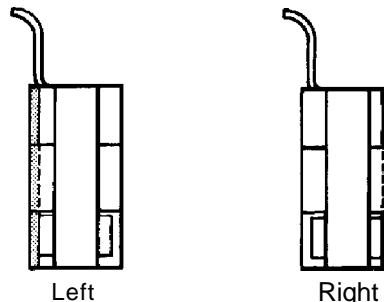

Fig 2b
10.52 If a left hand handle is required it will be necessary to reverse the drive fork - see Fig. 2b.